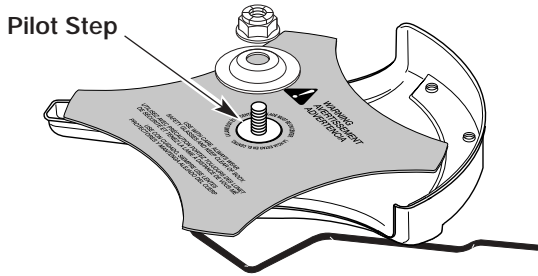

Fig. 12
- Make sure that the cutting blade is centered on the pilot step and sitting flat against the output shaft bushing (Fig. 12).